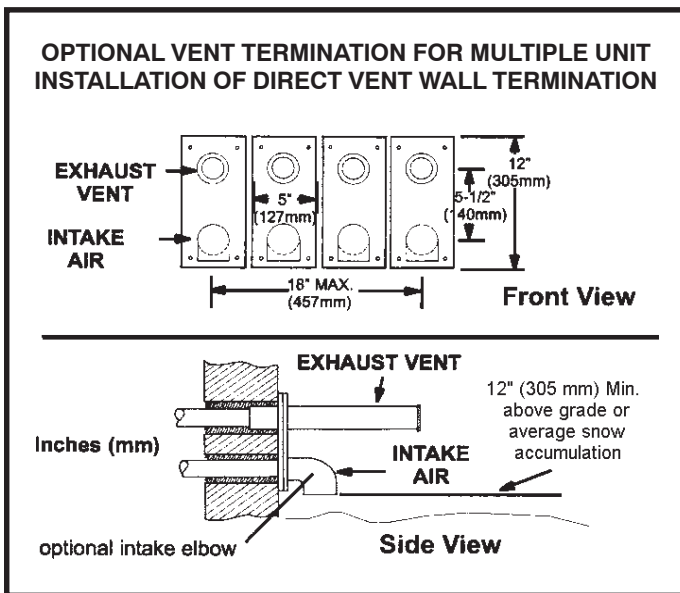

Figure 35
- A multiple furnace installation may use a group of up to four terminations assembled together horizontally, as shown in Figure 35.